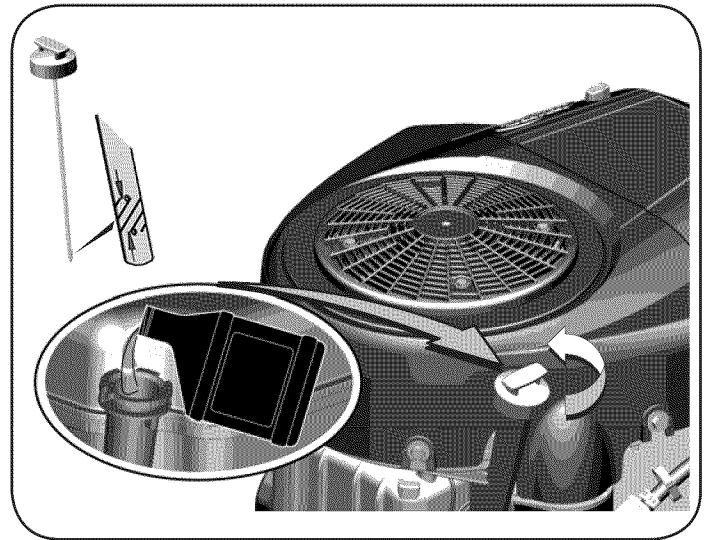

Figure 19
5. Remove the dipstick and check the oil level. It should be at the Full mark on the dipstick. See Figure 19.